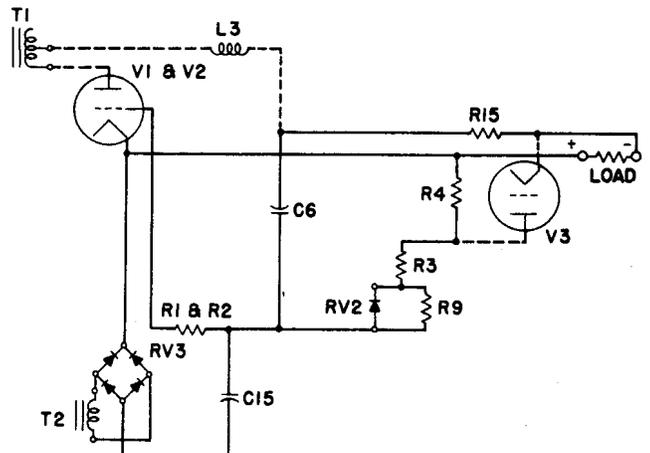

FIG. 1A
2.02 When power is first applied to the power supply unit (see Fig. 1A), metallic rectifier RV3, which is connected across the 3-4 winding of transformer T2, furnishes a d-c output of about 36 volts. RV3 immediately charges capacitors C6 and C15 so that the voltage across each is approximately 18 volts. The voltage of C6 provides a negative grid bias for V1 and V2 of almost 18 volts to prevent these tubes from firing. C6 discharges and C15 charges further, very slowly, through the high-resistance circuit composed of R4, R3, R9, and RV2. The resistance of R9 is 3.3 megohms and the resistance of RV2 to current in this direction is about 10 megohms. After about 30 seconds, the grid bias of V1 and V2 is reduced to about 3 volts, at which point V1 and V2 fire. Firing before the filaments have been heated to operating temperature would ruin the tubes, due to bombardment of the filaments and consequent dissipation of their active material.